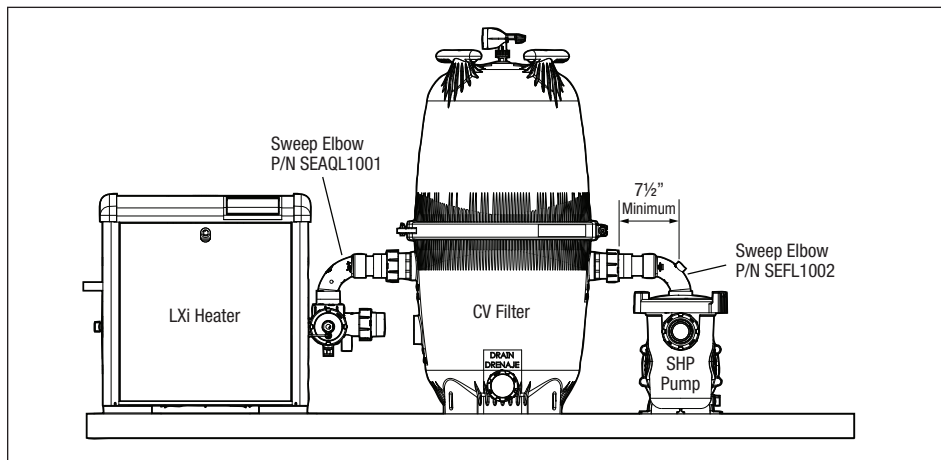

Figure 8. LXi™ Heater, CV Filter and SHP Pump Sweep Elbow Installation
- b. Be sure there is a minimum distance of 7 1/2 inches between the center of the pump outlet port and the filter inlet bulkhead to accommodate the sweep elbow(s). See Figure 8 for recommended installation configuration.
NOTE: The SHP pump shown in Figure 8 is for reference only. The Jandy Pro sweep elbow also works with the MHP and PHP series pumps.